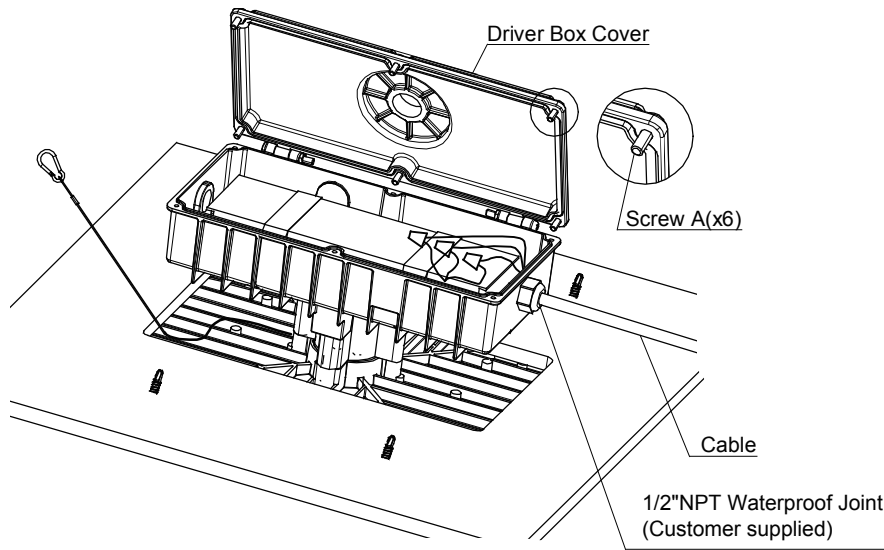

Figure 6
4. Feed the power leads into Driver Box through the side 1/2" NPT Waterproof Joint (Customer supplied) and tighten the joint. See Figure 6.
6. Replace and secure the Driver Box Cover with removed Screws A(6). See Figure 6.